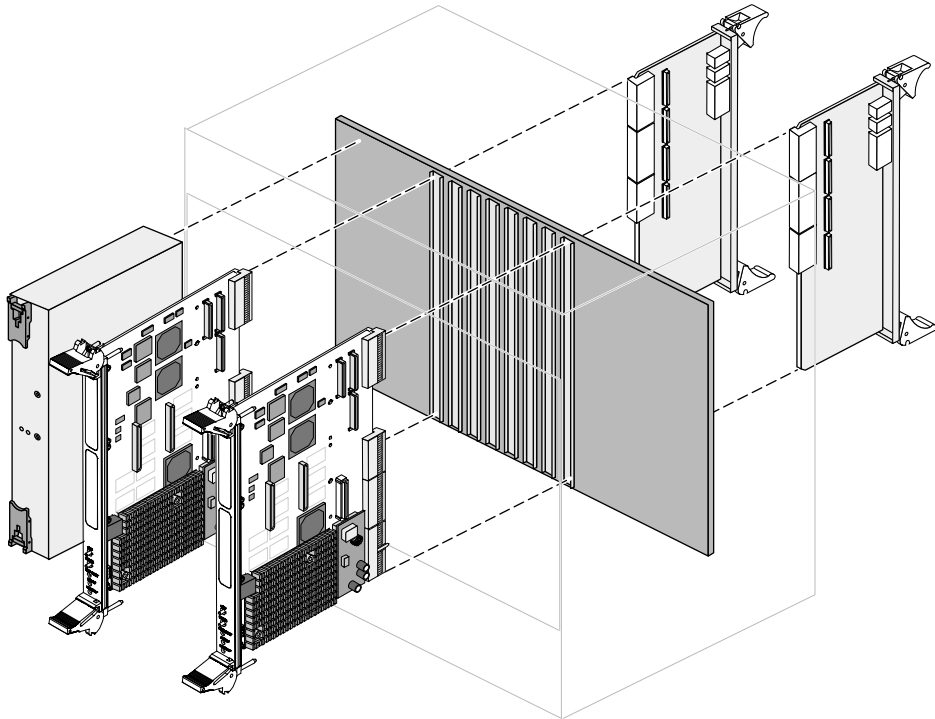

FIGURE 9 A Typical Assembly of the CP2080 System with Transition Cards to Serve the Host Processor and the Satellite Host
The XCP2060-TRN I/O Transition Card installs into a CompactPCI chassis with a backplane made for front and rear board installation (see FIGURE 9). It must be installed in the slot directly behind the Netra CP2060/CP2080/CP2160 board for proper operation. These back-to-back slots have common pins to enable passing of signals between them.
3. Install the XCP2060-TRN I/O Transition Card into the chassis rear connector slot that lines up directly with the Netra CP2060/CP2080/CP2160 board (see FIGURE 9).
- 4. Install the Netra CP2060/CP2080/CP2160 board into the front of the chassis (see FIGURE 9) and push the board towards the backplane to make sure it is seated properly and the connectors make good contact with the XCP2060-TRN I/O Transition Card.**